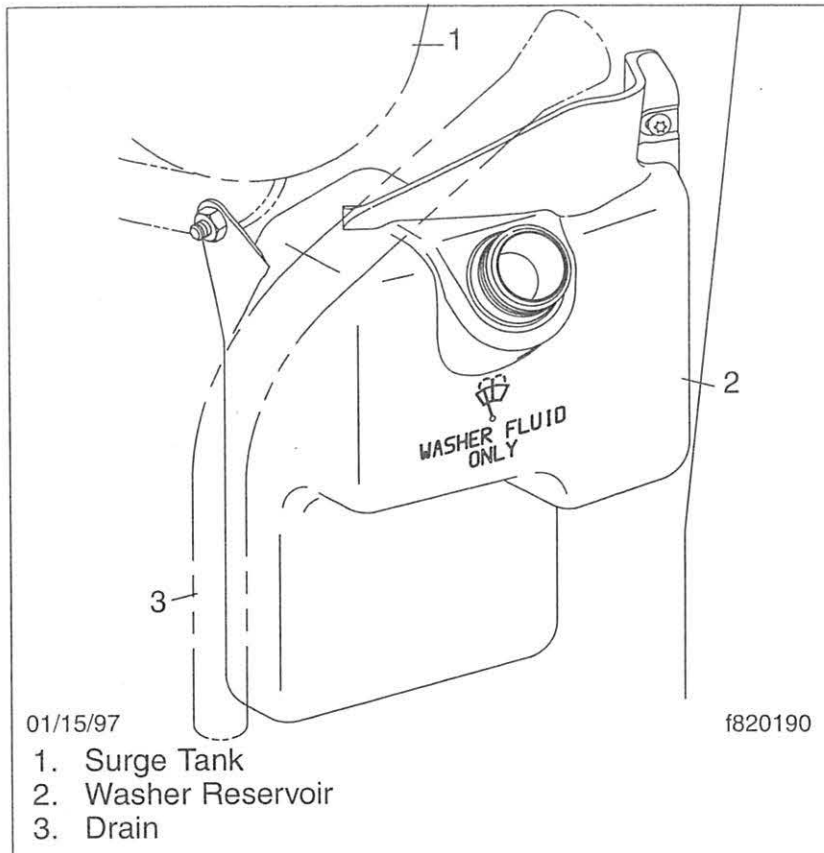

Fig. 11.1, Windshield Washer Reservoir
3. Check that the windshield washer reservoir is filled. Add washer fluid as needed. See **Fig. 11.1**. The windshield washer reservoir is located on the left-hand side of the frontwall between the surge tank and the hood. Unscrew the cap to add fluid.